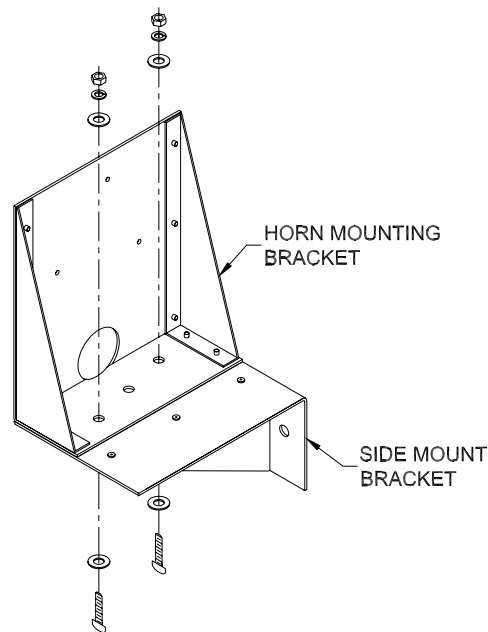

Figure 9 Side Mount Bracket Removal
6. The horn mounting bracket has a side mount bracket attached. If the horn is going to be mounted on top of the scoreboard, remove the side mount bracket as seen in figure 9.